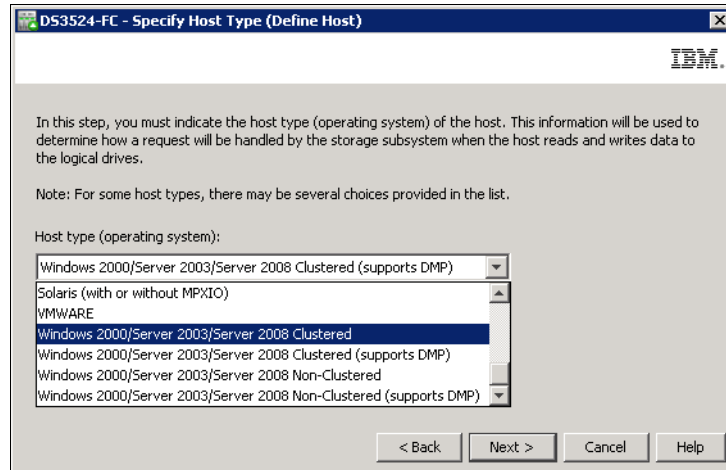

Figure 11-7 Define Host: Specify Host type
5. The next window requires you to specify the host type (Figure 11-7 on page 282). This is the operating system running on the host. It is vital that you select the appropriate host type because the RDAC and ADT/AVT settings rely on this setting. In addition, this is the part of the configuration where you configure the heterogeneous host support. Each operating system expects slightly different settings and handles SCSI commands differently. If you make a wrong choice, your operating system might not recognize LUNs anymore or path failover might not work. Select a host type version that supports clustering if you plan to configure the host as a cluster node.